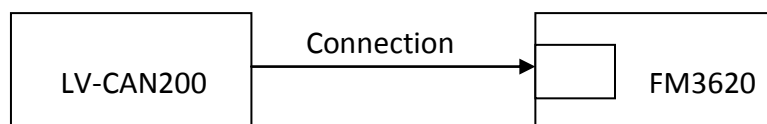
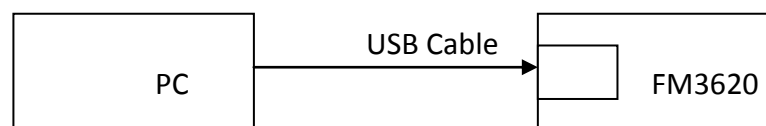

Figure 56 Connect adapter LV-CAN100 to FM3620
Figure 57 Connect FM3620 to PC and configure
**SCAN function** – is in use when FM3620 is connected to CAN adapter (Figure 56), then wait 10s (Note, that car engine must be started), disconnect adapter from FM3620, and connect PC USB cable to FM3620 Device (Figure 57). It is very important not to disconnect FM3620 from power source during this operation, because if FM3620 is reconnected all received CAN bus data will be lost. FM3620 remembers received data from LV-CAN200 and at the end of the procedure when “SCAN” button is pressed, user will see all CAN data which is sent by adapter. Enable CAN data which needs send to server and save configuration pressing “Save” button.
1. In car, connect LV-CAN200 to CAN bus and to the FM3620 device (Figure 56), wait 10 seconds. Note, that car engine must be started.
2. Disconnect LV-CAN200 from FM3620, and connect PC USB cable to FM3620 Device (Figure 57). It is very important not to disconnect FM3620 from power source, because then all CAN data will be lost.